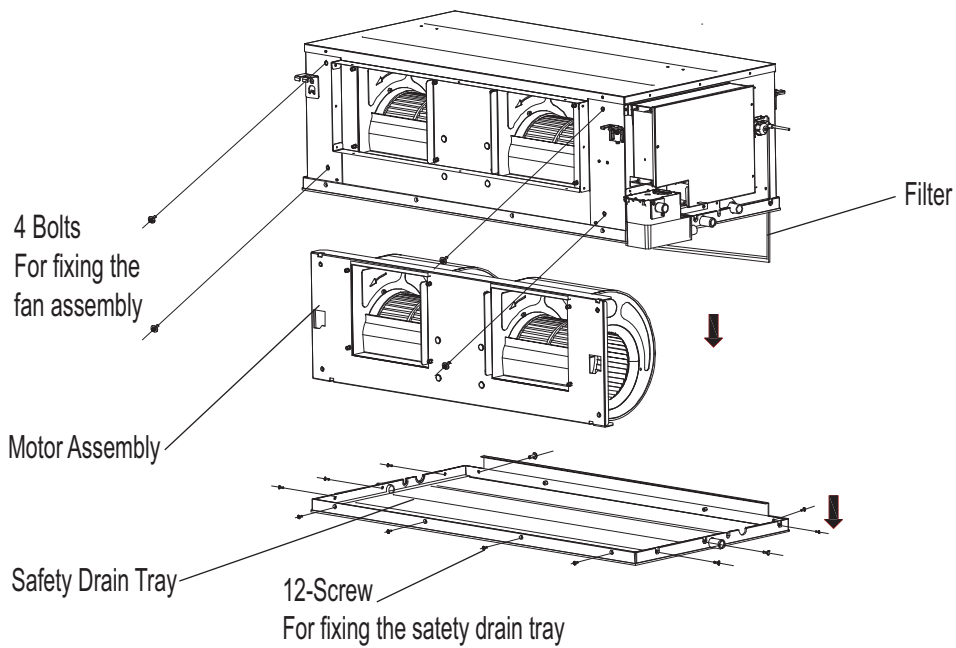

Fig. 42 —Fan Disassembly (048-054)
1. Remove all 12 screws from the Safety Drain Tray, and remove the safety drain tray (See Fig. 42).